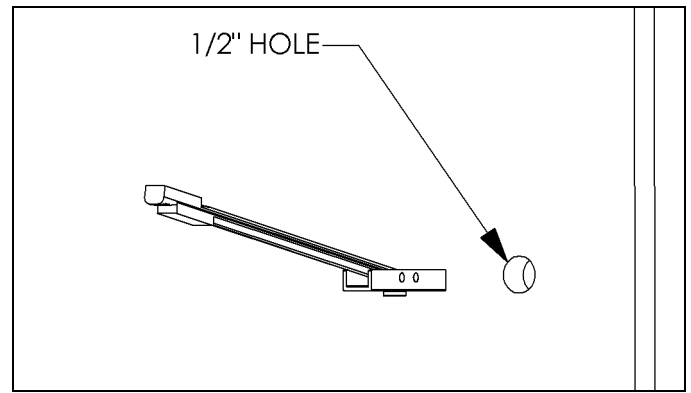

Figure 8.
2. Using the speaker wall bracket (20) as a template, mark the location of the two mounting holes.
3. Drill a 1/2" hole at the desired location, making sure wall is at least 1/2" thick. If the wall is made with metal studs, it is recommended to install the anchor through the drywall and the metal stud (see Figure 8).